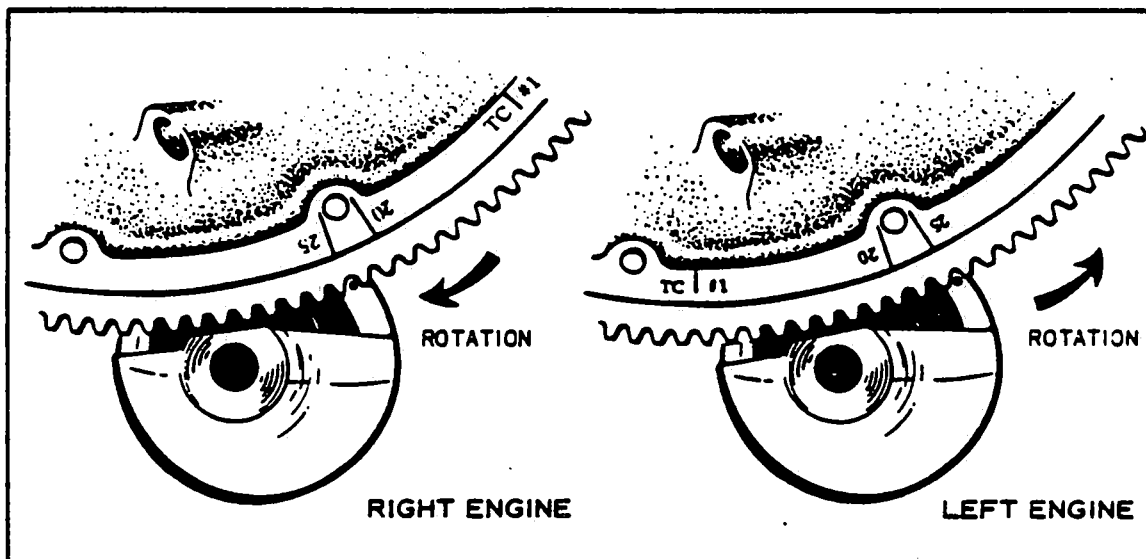

Figure 8-2. Engine Timing Mark
b. Remove the top spark plug from No. 1 cylinder. Place the thumb of one hand over the spark plug hole and rotate the crankshaft in direction of rotation until the compression stroke is reached. The compression stroke is indicated by a positive pressure inside the cylinder tending to lift the thumb off the spark plug hole. In this position, both valves of No. 1 cylinder are closed. Turn the crankshaft opposite to its direction of rotation until it is approximately 35 degrees BTC on the compression stroke of No. 1 cylinder. Rotate the crankshaft in its direction of rotation until the 25 degrees mark on the back of the starter gear and the crankcase parting surface are aligned, or the marks on the front of the starter ring gear and the drilled hole in the starter housing align. (Refer to Figure 8-2.)
- j. Turn the crankshaft very slowly in direction of rotation until the timing mark on the front face of the ring gear aligns with the drilled hole in the starter, as shown in Figure 8-2, or the timing mark on the back of the ring gear aligns with the crankcase parting surface. At this point, the light should go out.